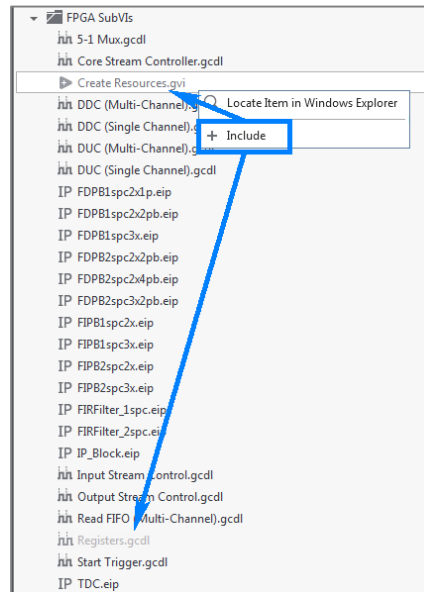

Figure 78: Files to Include
- c. In the “Project Files” view on the Navigation Pane of the original project, the new files will appear slightly greyed out. Right-click on each and select **Include** as shown in Figure 78.